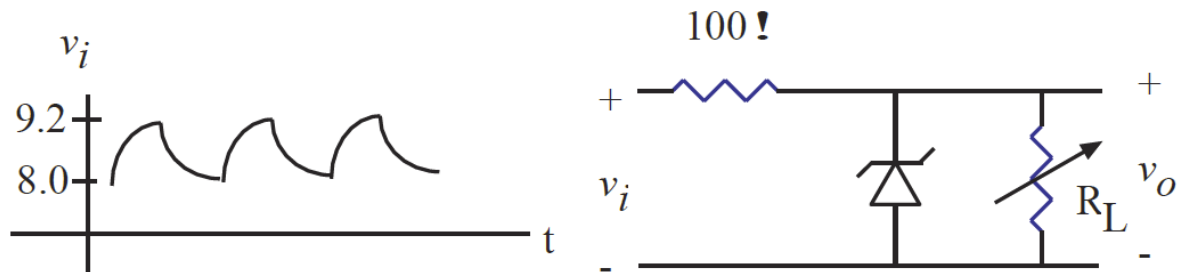

Figure 4.4
3. Find the minimum value of load resistance for which the voltage regulator in figure 4.4 will hold a constant output of 6.8 volts. Assume a 6.8-volt zener is used.